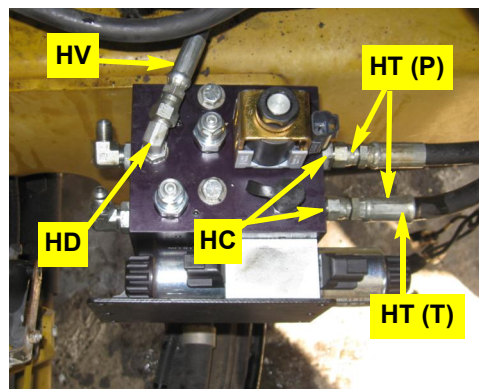

Figure 6b: Pressure, tank and load sense hoses installed at steering block
- c. Connect load sense hose **HV** to adapter fitting **HD** in the hydraulic steering block and the pressure and tank hoses **HT** to adapter fittings **HC** in the **P** and **T** ports on the hydraulic steering block (Figure 6b).